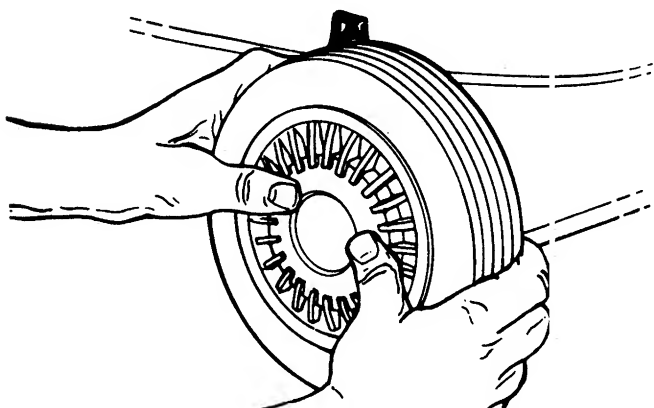

FIGURE 7.
1. Attach hub caps (optional) to wheels by placing in position against the inner hub of the wheel. For units with 2" wide tires, press firmly around the center portion of hub cap in a circular motion, similar to installing a lid on a round, plastic container. See figure 7. The hub caps are flexible and will snap over the 3-1/2" diameter wheel hubs.